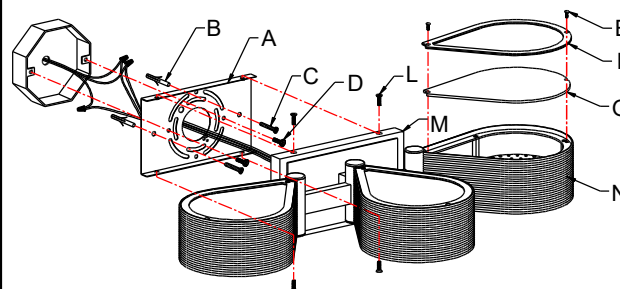

Fig. 2
8. Connect the electrical wires as shown in Fig. 2, making sure that all wire connectors are secured. If your junction box has a ground wire (green or bare copper), connect the fixture's ground wire to it. Otherwise, connect the fixture's ground wire directly to mounting plate (A) using the green screw provided. After the wires are connected, tuck them carefully inside the junction box.
9. Place fixture body (M) over mounting plate (A) and secure with screws (L).